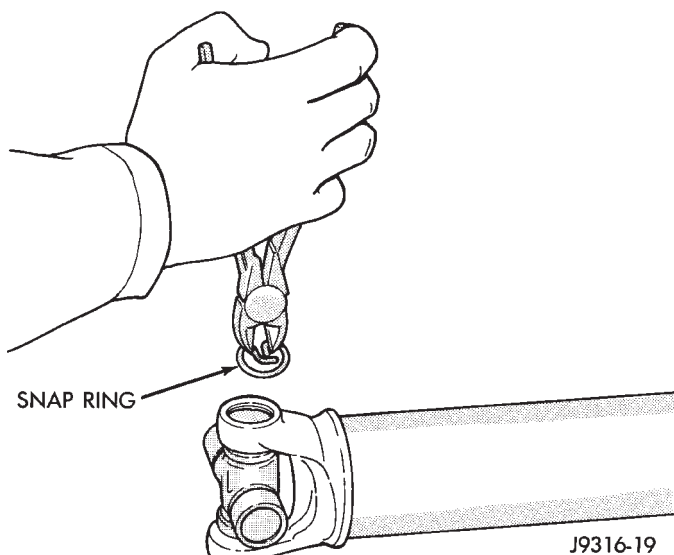

Fig. 18 Remove Snap Ring
(3) Using a soft drift, tap the outside of the bearing assembly to loosen snap ring.
(4) Remove snap rings from both sides of yoke (Fig. 18).